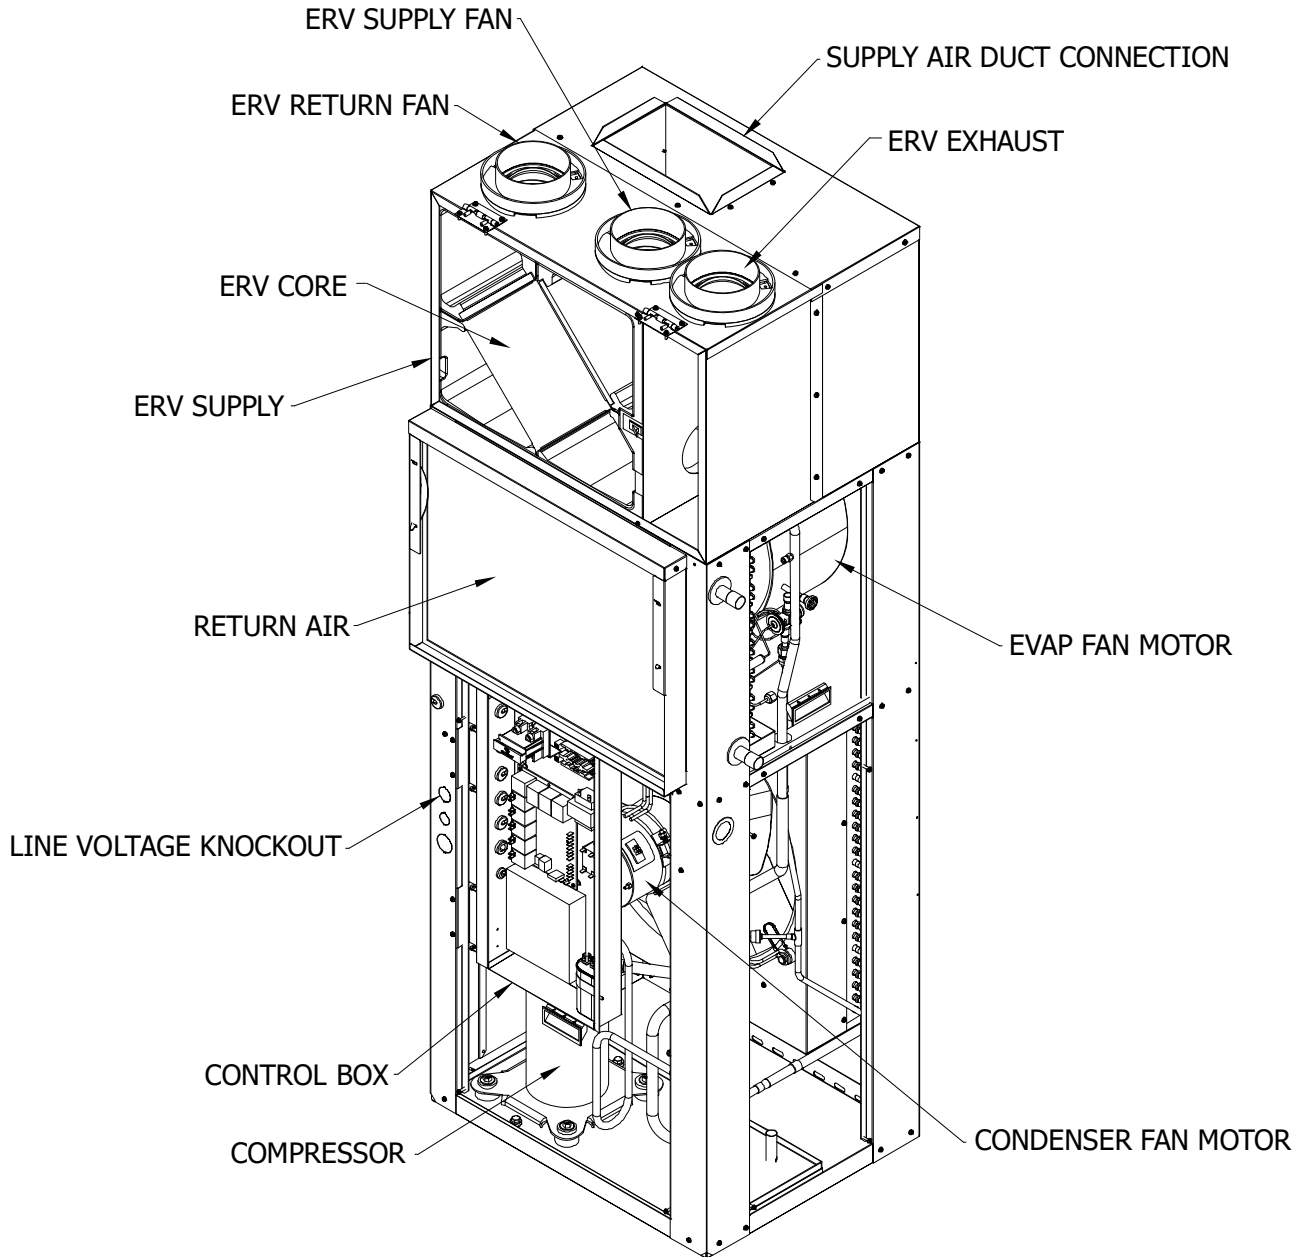

FIGURE 29 - Location of Major Components
3. For sensors with 0-10V PWM fan control use connection A shown in **Figure 29 – Humidity/CO2 Sensor**. For 24V relay activation of fans use the B connections. Insert sensor wires into specified terminals. **DO NOT REMOVE ANY EXISTING WIRES FROM ERV CONTROLLER**